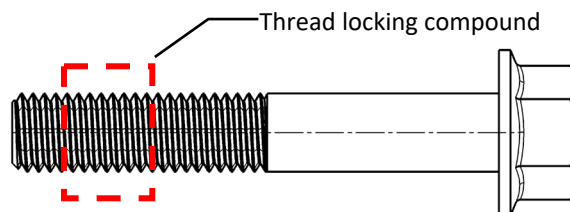

Figure 3: Supplied Flange Bolt
N. Apply a high strength, permanent thread locking compound to the bolt thread as shown in figure 3.